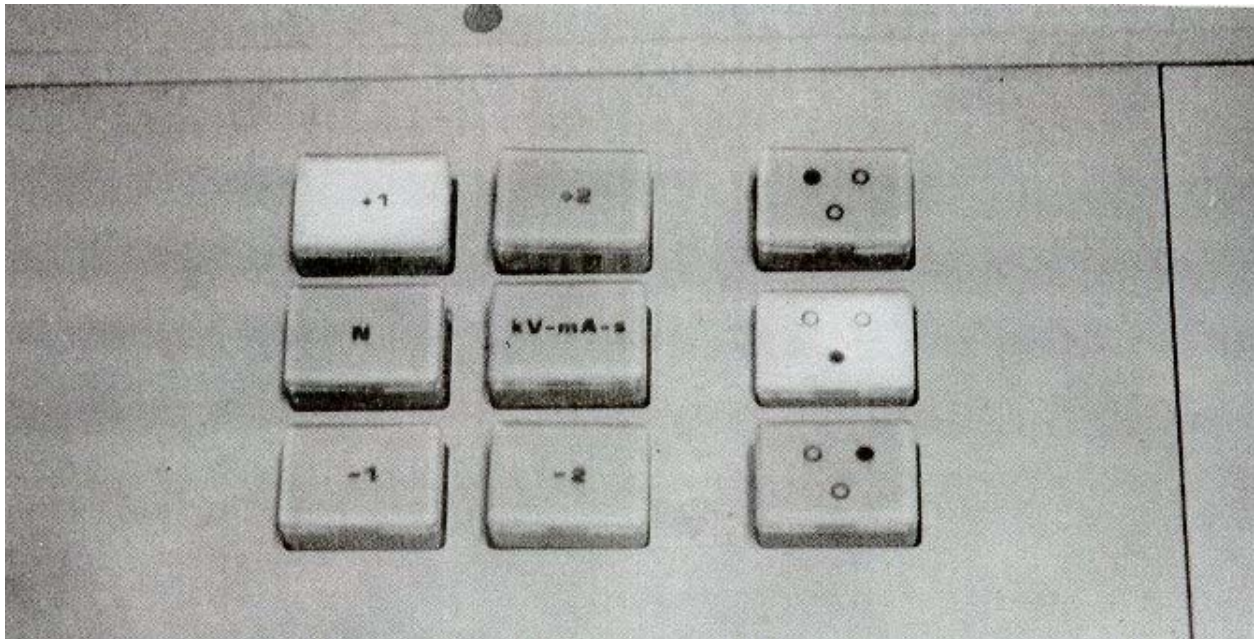

Figure 4-27. Density control station plus one (+1) being tested.
- e. Select a density control station (plus or minus one or plus or minus two) (see figure 4-27).